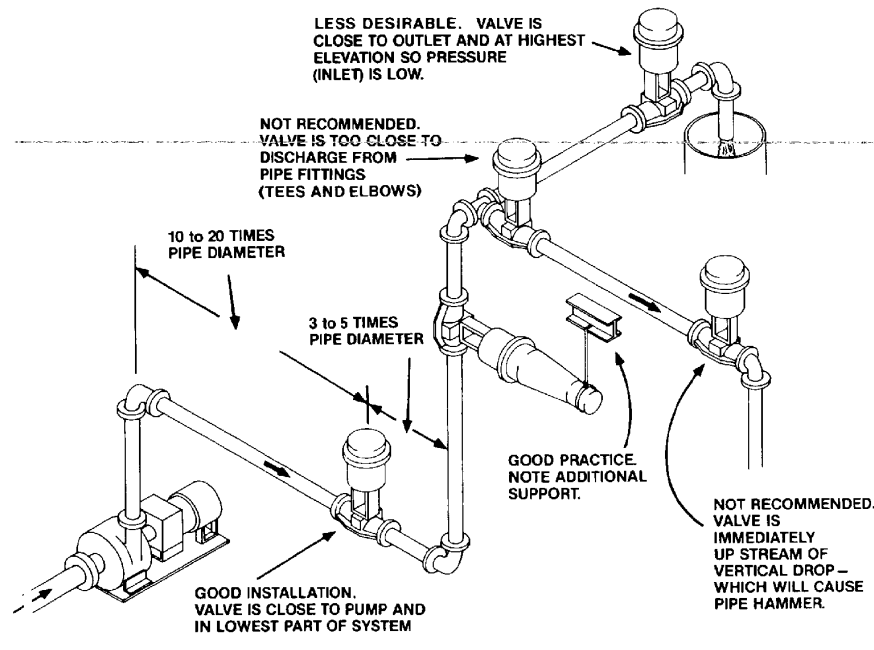

fig 1
3. Allow as long a straight run as possible into and out of throttling valves. A good rule of thumb is 10 to 20 pipe diameters up stream, and 3 to 5 pipe diameters down stream. (Refer to Fig. 1)